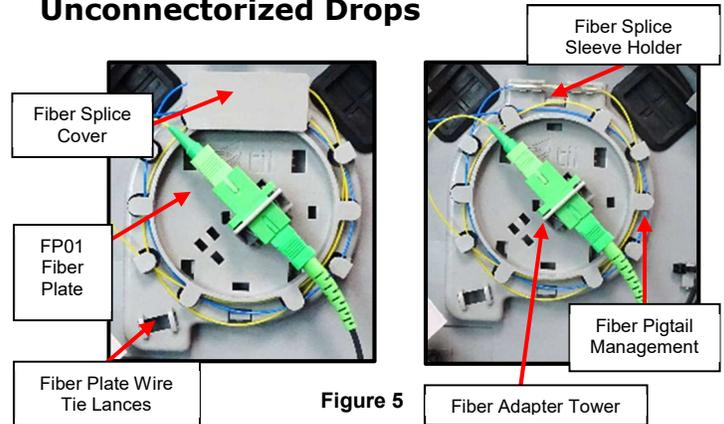

Figure 5
2. Splice feed fiber to pigtail and manage excess pigtail around fiber plate. Insert splice sleeve into splice holder and replace cover (figure 5).